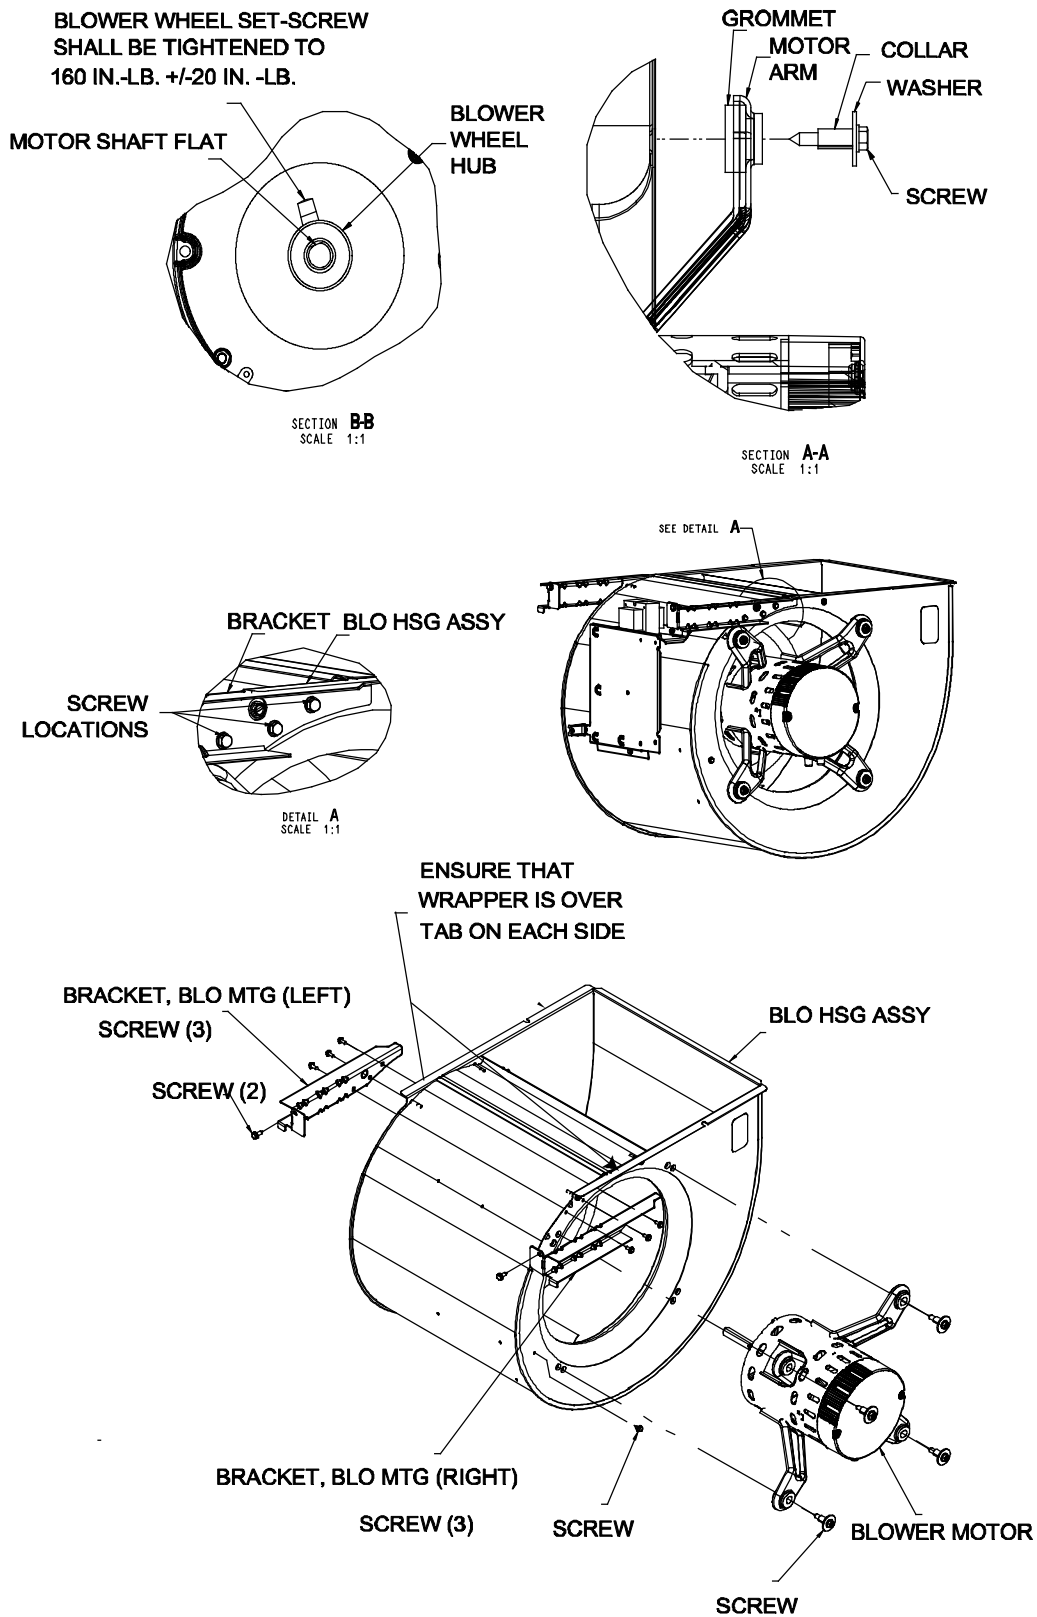

Fig. 5 - Blower Assembly
12. Remove the mounting arm brackets or any other remaining baffles attached to the blower housing. See Detail A of Fig. 5.